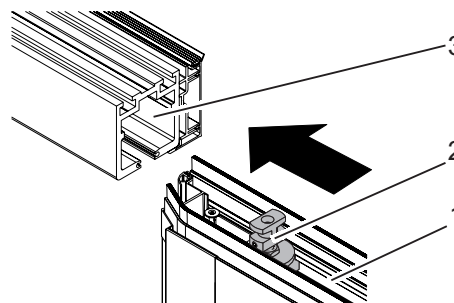

Fig. 10: Attaching the fixed panel to the track
3. Slide the fixed panel (Fig. 10/1) with the first fixed panel holder (Fig. 10/2) into the track (Fig. 10/3).